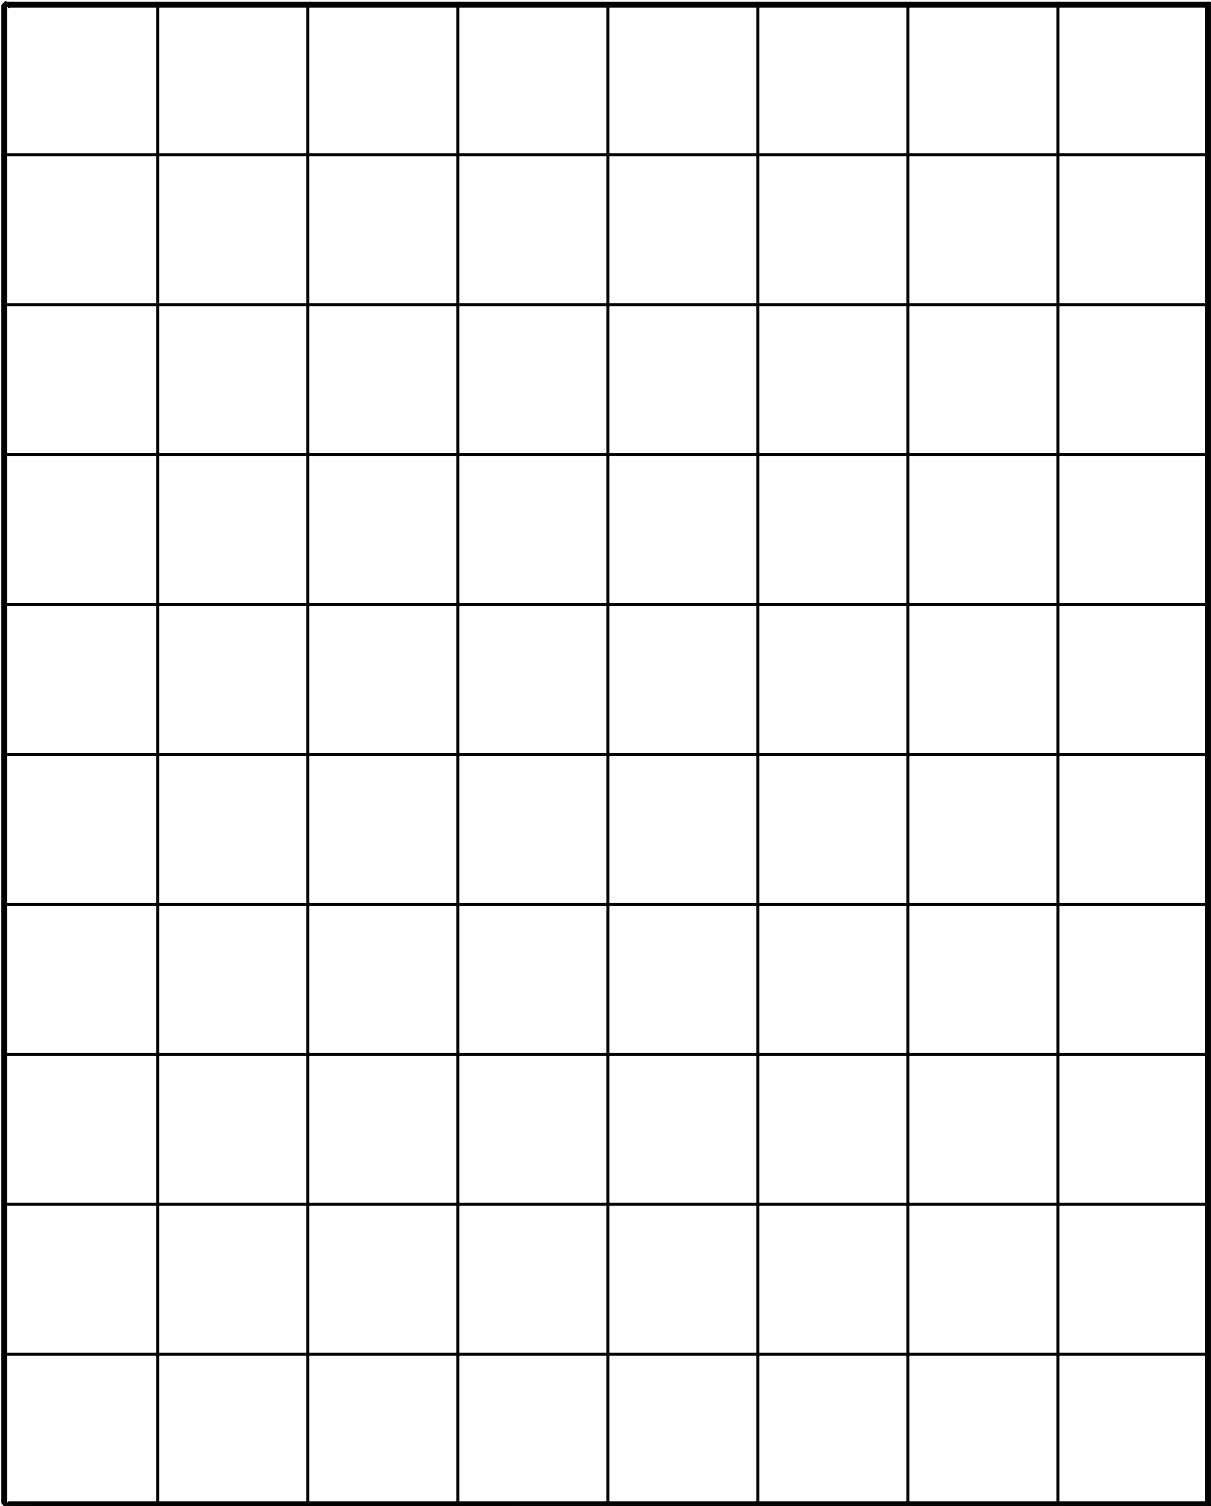

Figure 32-9 Amending the circuit design.
7. Using the space provided in Figure 32-9, modify the circuit in Figure 32-7 to operate as follows: